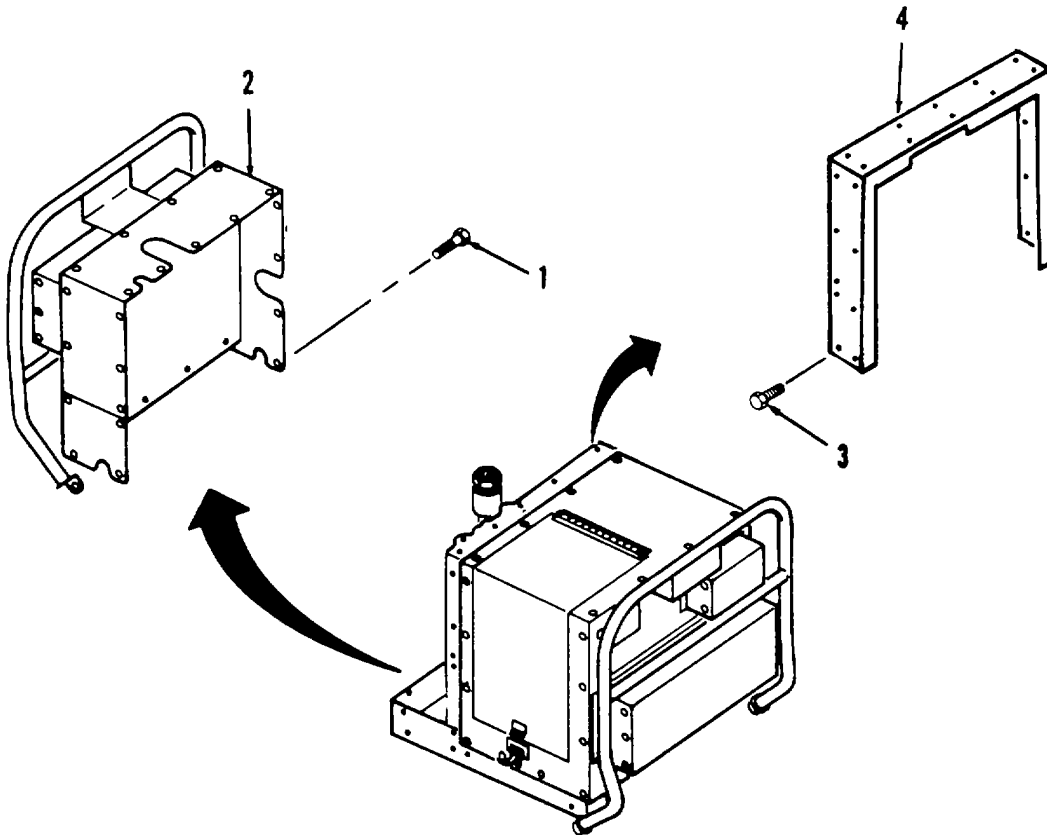
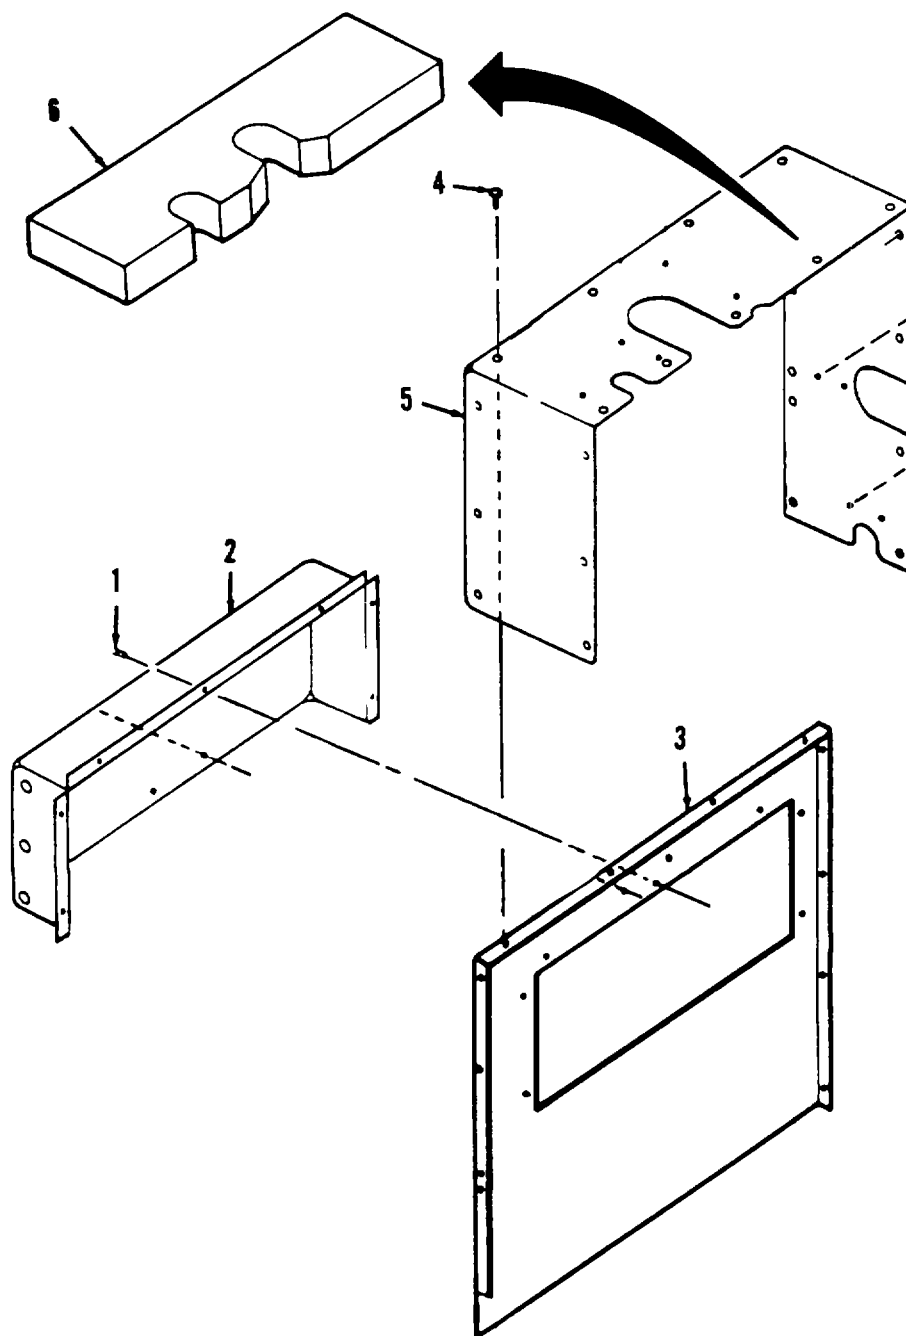

Figure 4-13. Enclosure Assembly, Outlet Side Removal.
Figure 4-14. Enclosure Assembly, Outlet Side Disassembly.
a. Removal. (Refer to Figure 4-13).
- (1) Remove nineteen screws (1).
- (2) Remove outlet enclosure assembly (2) from unit.
- (3) Remove four screws (3) and sheet (4).
b. Disassembly. (Refer to Figure 4-14).
- (1) Drill out and remove seven rivets (1).
- (2) Remove sheet (2) from sheet (3).
- (3) Drill out and remove eleven rivets (4).
- (4) Remove sheet (5) from sheet (3).
- (5) If foam insulation is to be replaced, remove foam insulation (6) as required.
- (2) Clean all metallic parts with a clean soft cloth or a medium bristle brush, and cleaning solvent. Be sure that all gasket adhesive residue is removed if gasket material is being replaced.
- (3) Allow parts to dry.
e. Assembly. (Refer to Figure 4-14.)
- (1) If foam insulation (6) was removed, replace foam insulation. Refer to Appendix F for manufacturing instructions.
- (2) Place sheet (5) into position on sheet (3) and install eleven rivets (4).
- (3) Place sheet (2) into position on sheet (3) and install seven rivets (1).
f. Installation. (Refer to Figure 4-13).
- (1) Install sheet (4) and four screws (3).
- (2) Place outlet enclosure assembly (3) into position on unit and install twelve screws (2).
- (3) Install seven screws (1).
- (4) Install access cover (see paragraph 4-18).
- (5) Install roll-over frames (see paragraph 4-13).